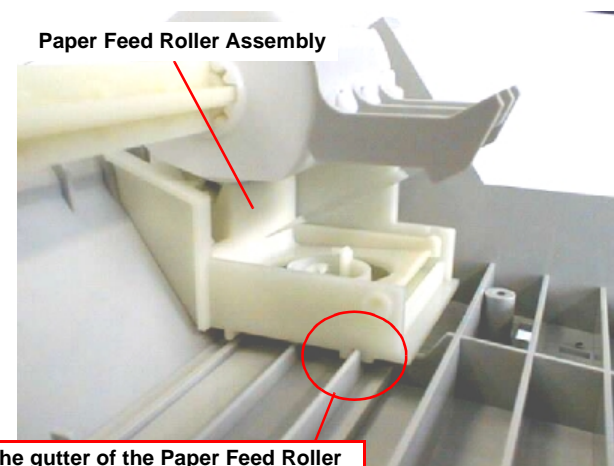

Figure 4-39. Fitting the Paper Feed Roller Assy. to the Rail
- Make sure that gutters in the back of both Paper Feed Roller Assemblies are set on the rail in the ASF Frame. Refer to Figure 4-39.